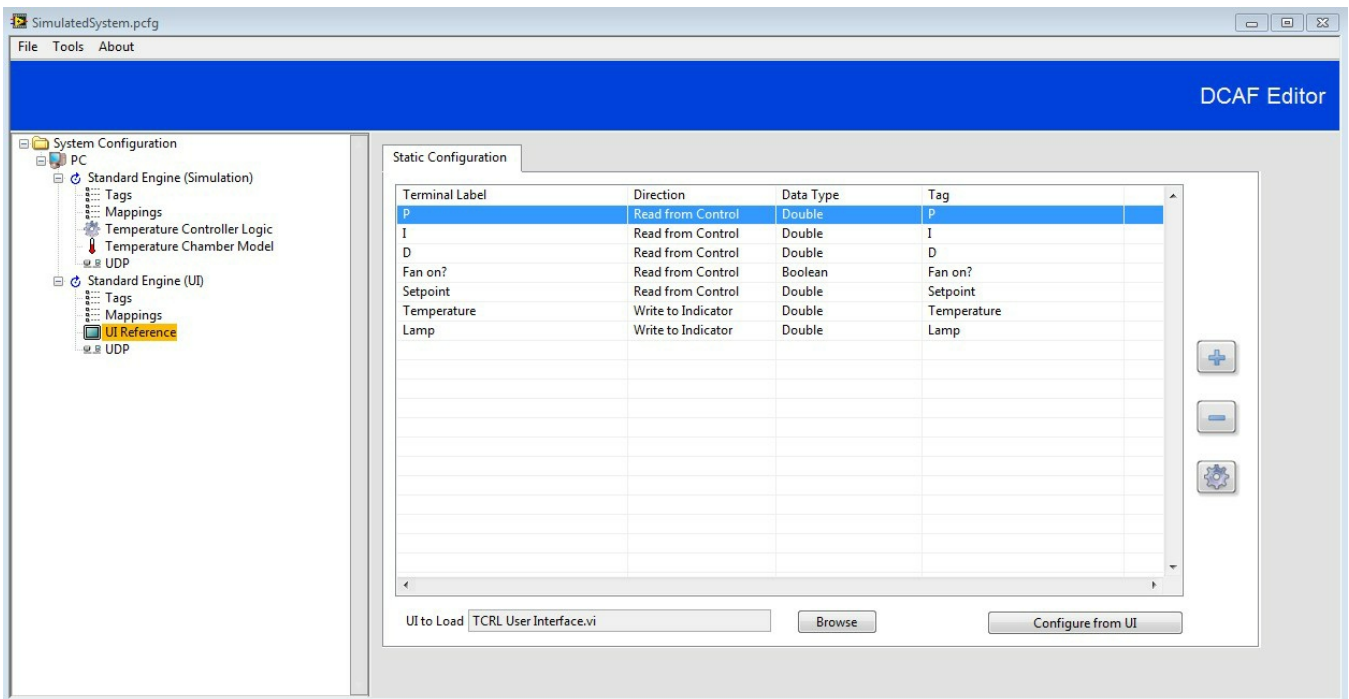

Figure 1.8
3. Press the **Configure from UI** button in the bottom right of the pane. When the pop up asking to Automatically map tags to channels appears select **Yes**. Verify your mappings comparing them with Figure 1.8.